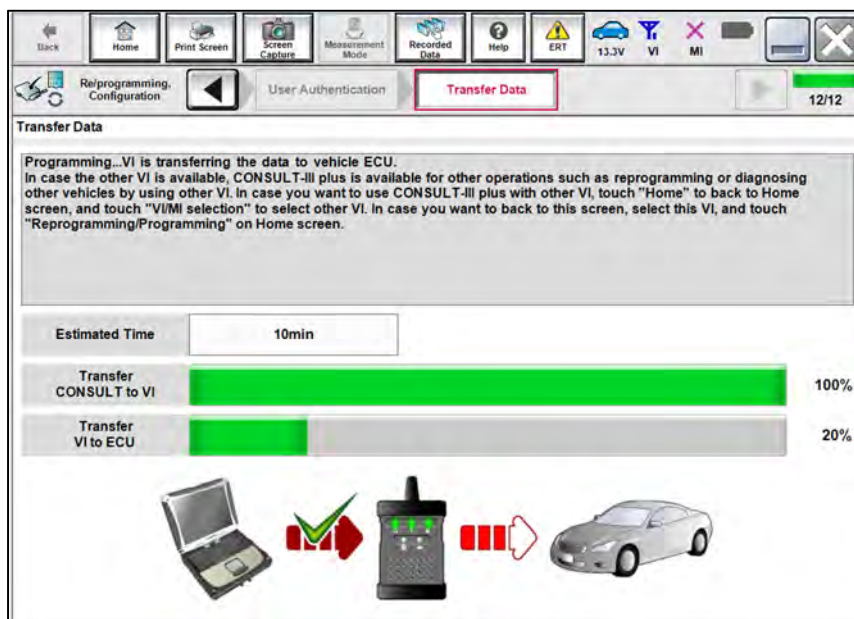

Figure 20
35. Wait for both progress bars to complete (Figure 20).